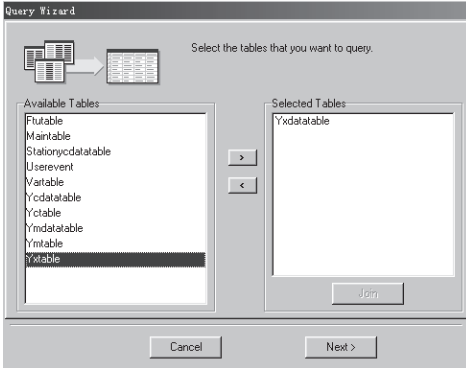

Fig. 8.5
2.2 Double click the table name in Fig. 8.5.